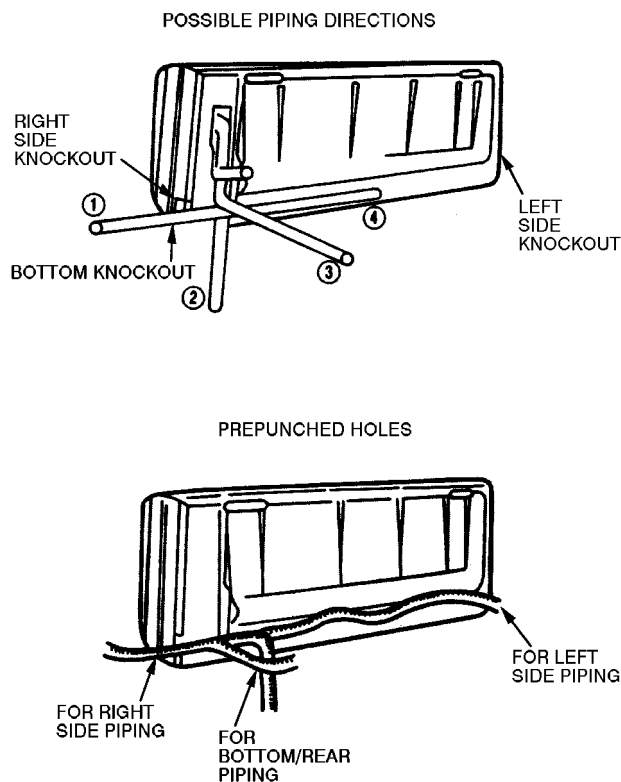

Fig. 4 — Refrigerant Piping
7. Refrigerant piping can enter the unit through the prepunched holes. Refrigerant piping can run up or down along the wall, to the right or left along the wall, straight through the wall, or into the wall (Fig. 4). Once the piping is through the wall, it can run inside walls, in ceilings, between floors, or straight to the outside. See Fig. 5 for maximum line lengths.
1. Decide how refrigerant will be piped. If necessary, knock out the appropriate pre-punched holes (Fig. 4) on unit for piping and electrical connections.